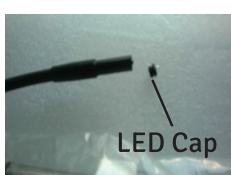

Figure CM-08 Changing Target Light LED
1. Unscrew the LED cap refer fig. CM-08.